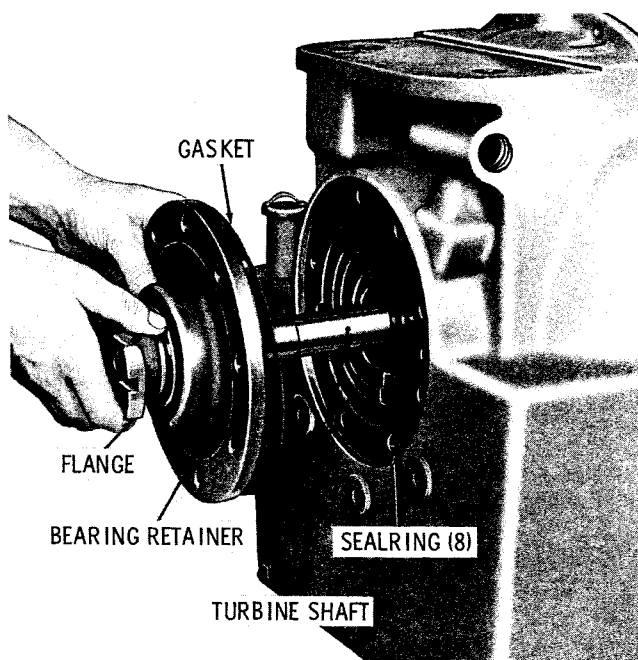

Fig. 7-10. Installing automotive shaft assembly (TC 300)
(1) Set the converter housing in a vertical position, top upward.
(2) Install eight sealrings 3 (A, foldout 8) and gasket 4.
(3) Install the output shaft assembly, as rebuilt in paragraph 6-11 (fig. 7-10).
(4) Secure the assembly with eight 1/2-13 x 2 3/4-inch, self-locking bolts 9 (A, foldout 8). Tighten the bolts to 81 to 97 pound feet torque.